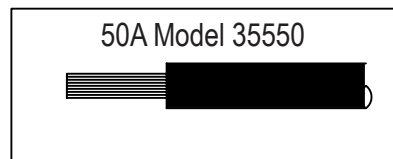

FIGURE 4
6. Install conductors as shown. (See Figures 4, 4A, 5 & 5A)